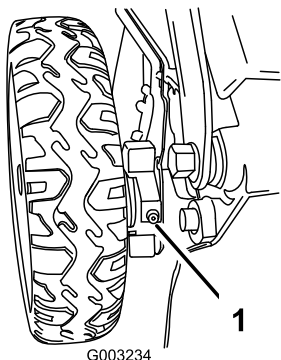

Figure 26
1. Wipe the grease fittings just inside the rear wheels with a clean rag (Figure 26).